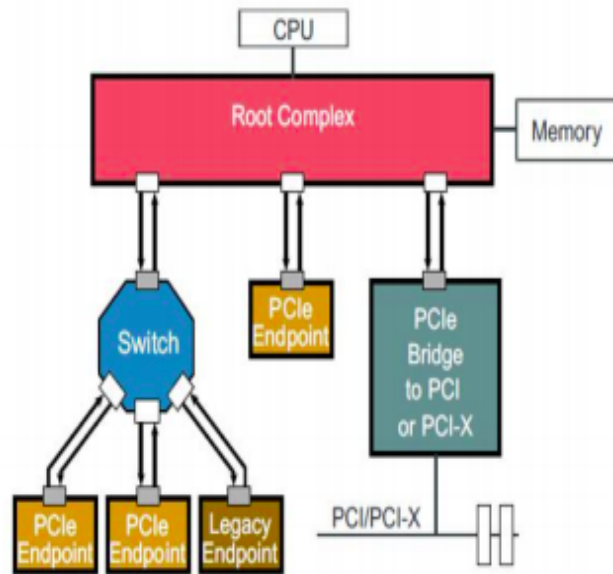

Figure 1.2: Topology
A Topology is composed of point-to-point Links that interconnect a set of components. This figure 1.2 illustrates a single fabric instance referred to as a hierarchy – composed of a Root Complex (RC), multiple Endpoints (I/O devices), a Switch, and a PCI Express to PCI/PCI-X Bridge, all interconnected via PCI Express Links.